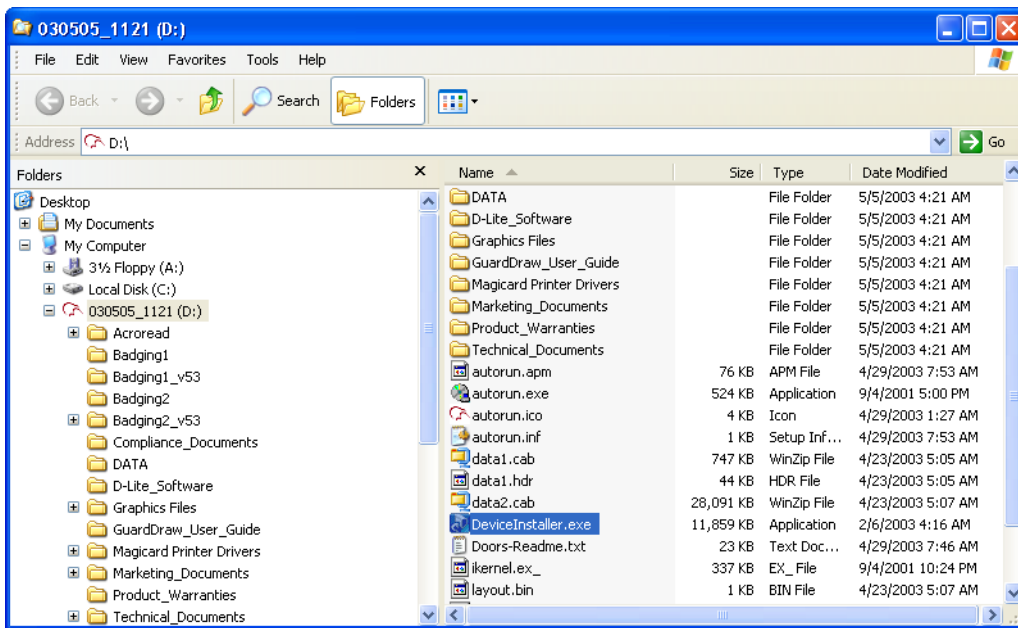

Figure 6: Windows Explorer
2. Click on the **Explore the CD-ROM** link. Windows Explorer opens and displays the CD-ROM contents (see Figure 6 on page 9).